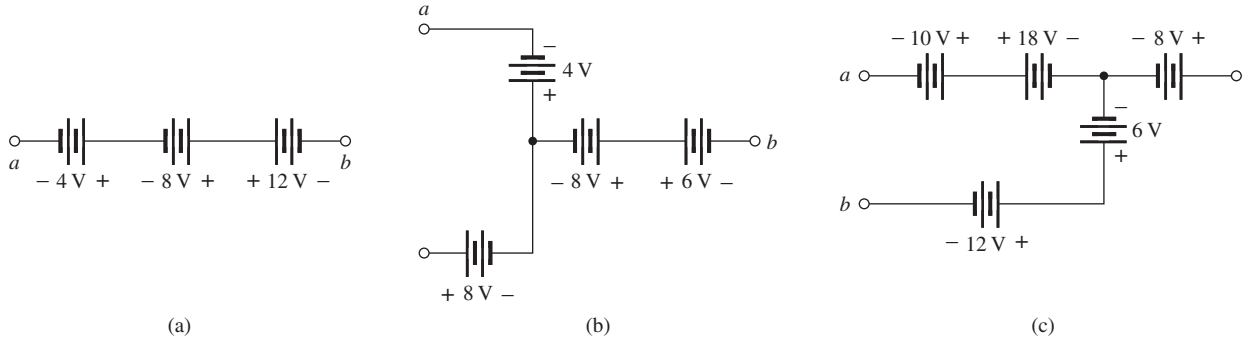

FIG. 5.101
17. Combine the series voltage sources in Fig. 5.101 into a single voltage source between points *a* and *b*.